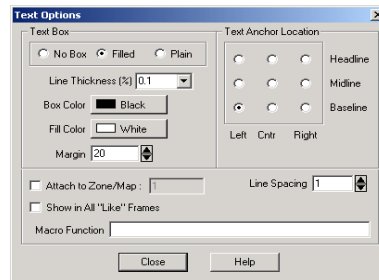

Figure 16-6. The Text Options dialog.
2. Click Options. The Text Options dialog appears as shown in Figure 16-6.